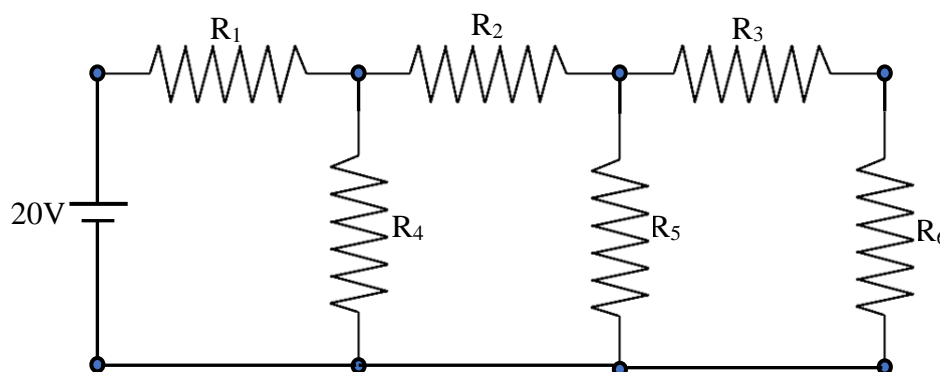

Figure 7.1: Norton's theorem
1. Connect the circuit on the bread board as shown in the figure 7.1.